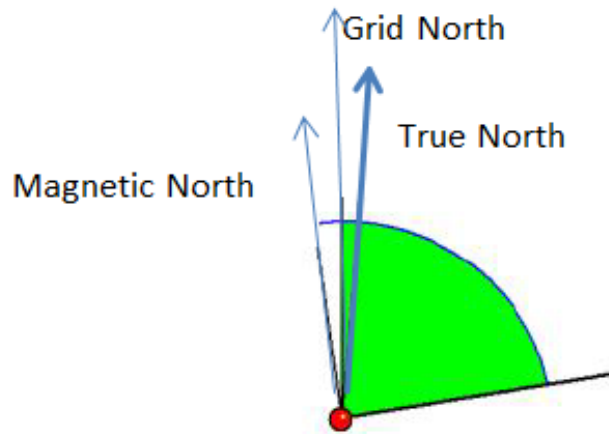

Figure 61 Total Correction
5. In the Example below in the Figure 61